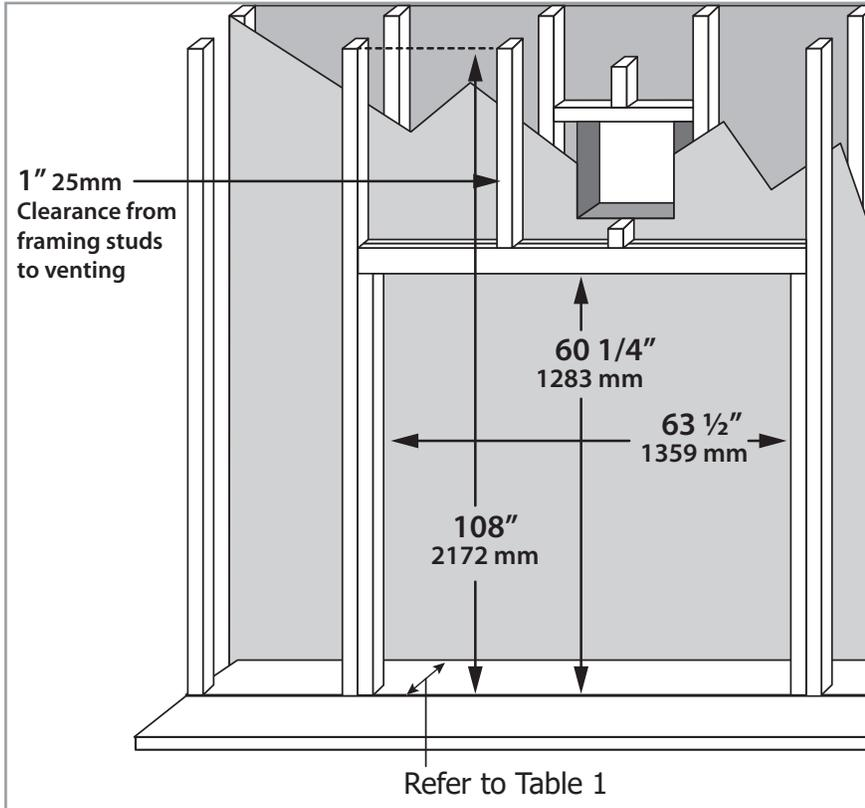
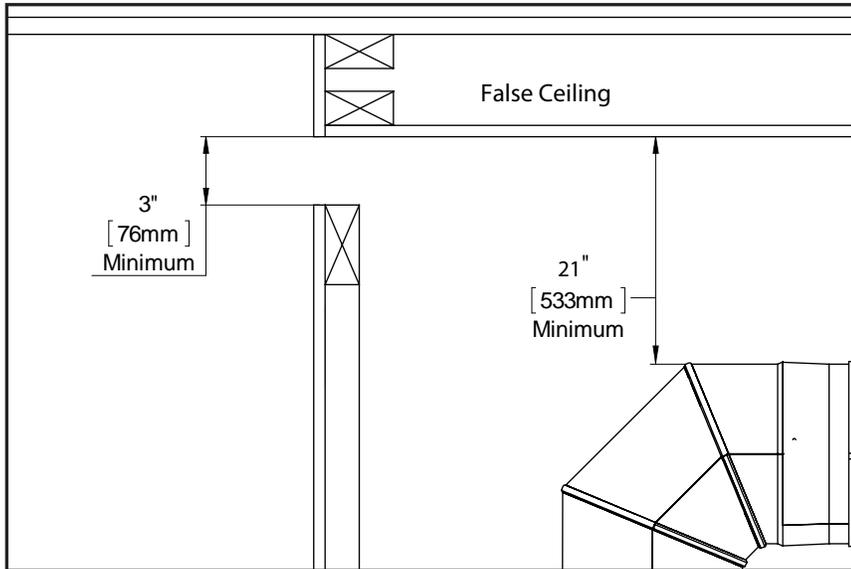

Figure 37: U55 Minimum Framing
Figure 42: False Ceiling
The location for the appliance can be raised, at floor level, or installed in a corner. There are minimum framing measurements for each situation. The basic rough opening should have the following dimensions (see Figure 37). The appliance must be placed on a strong and level surface.
**Optional: False Ceiling** - If your ceiling dimension is greater than the minimum (Figure 37) You may want the CSS Air discharge lower on the wall. To do this a false ceiling is required to properly evacuate the heat from the chase. (See Figure 42).